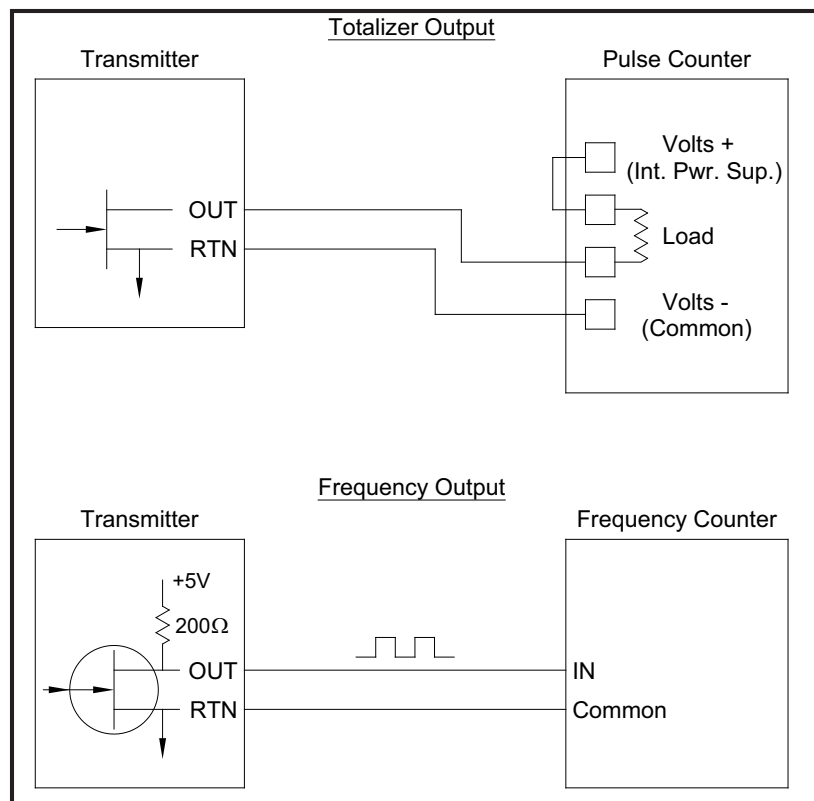
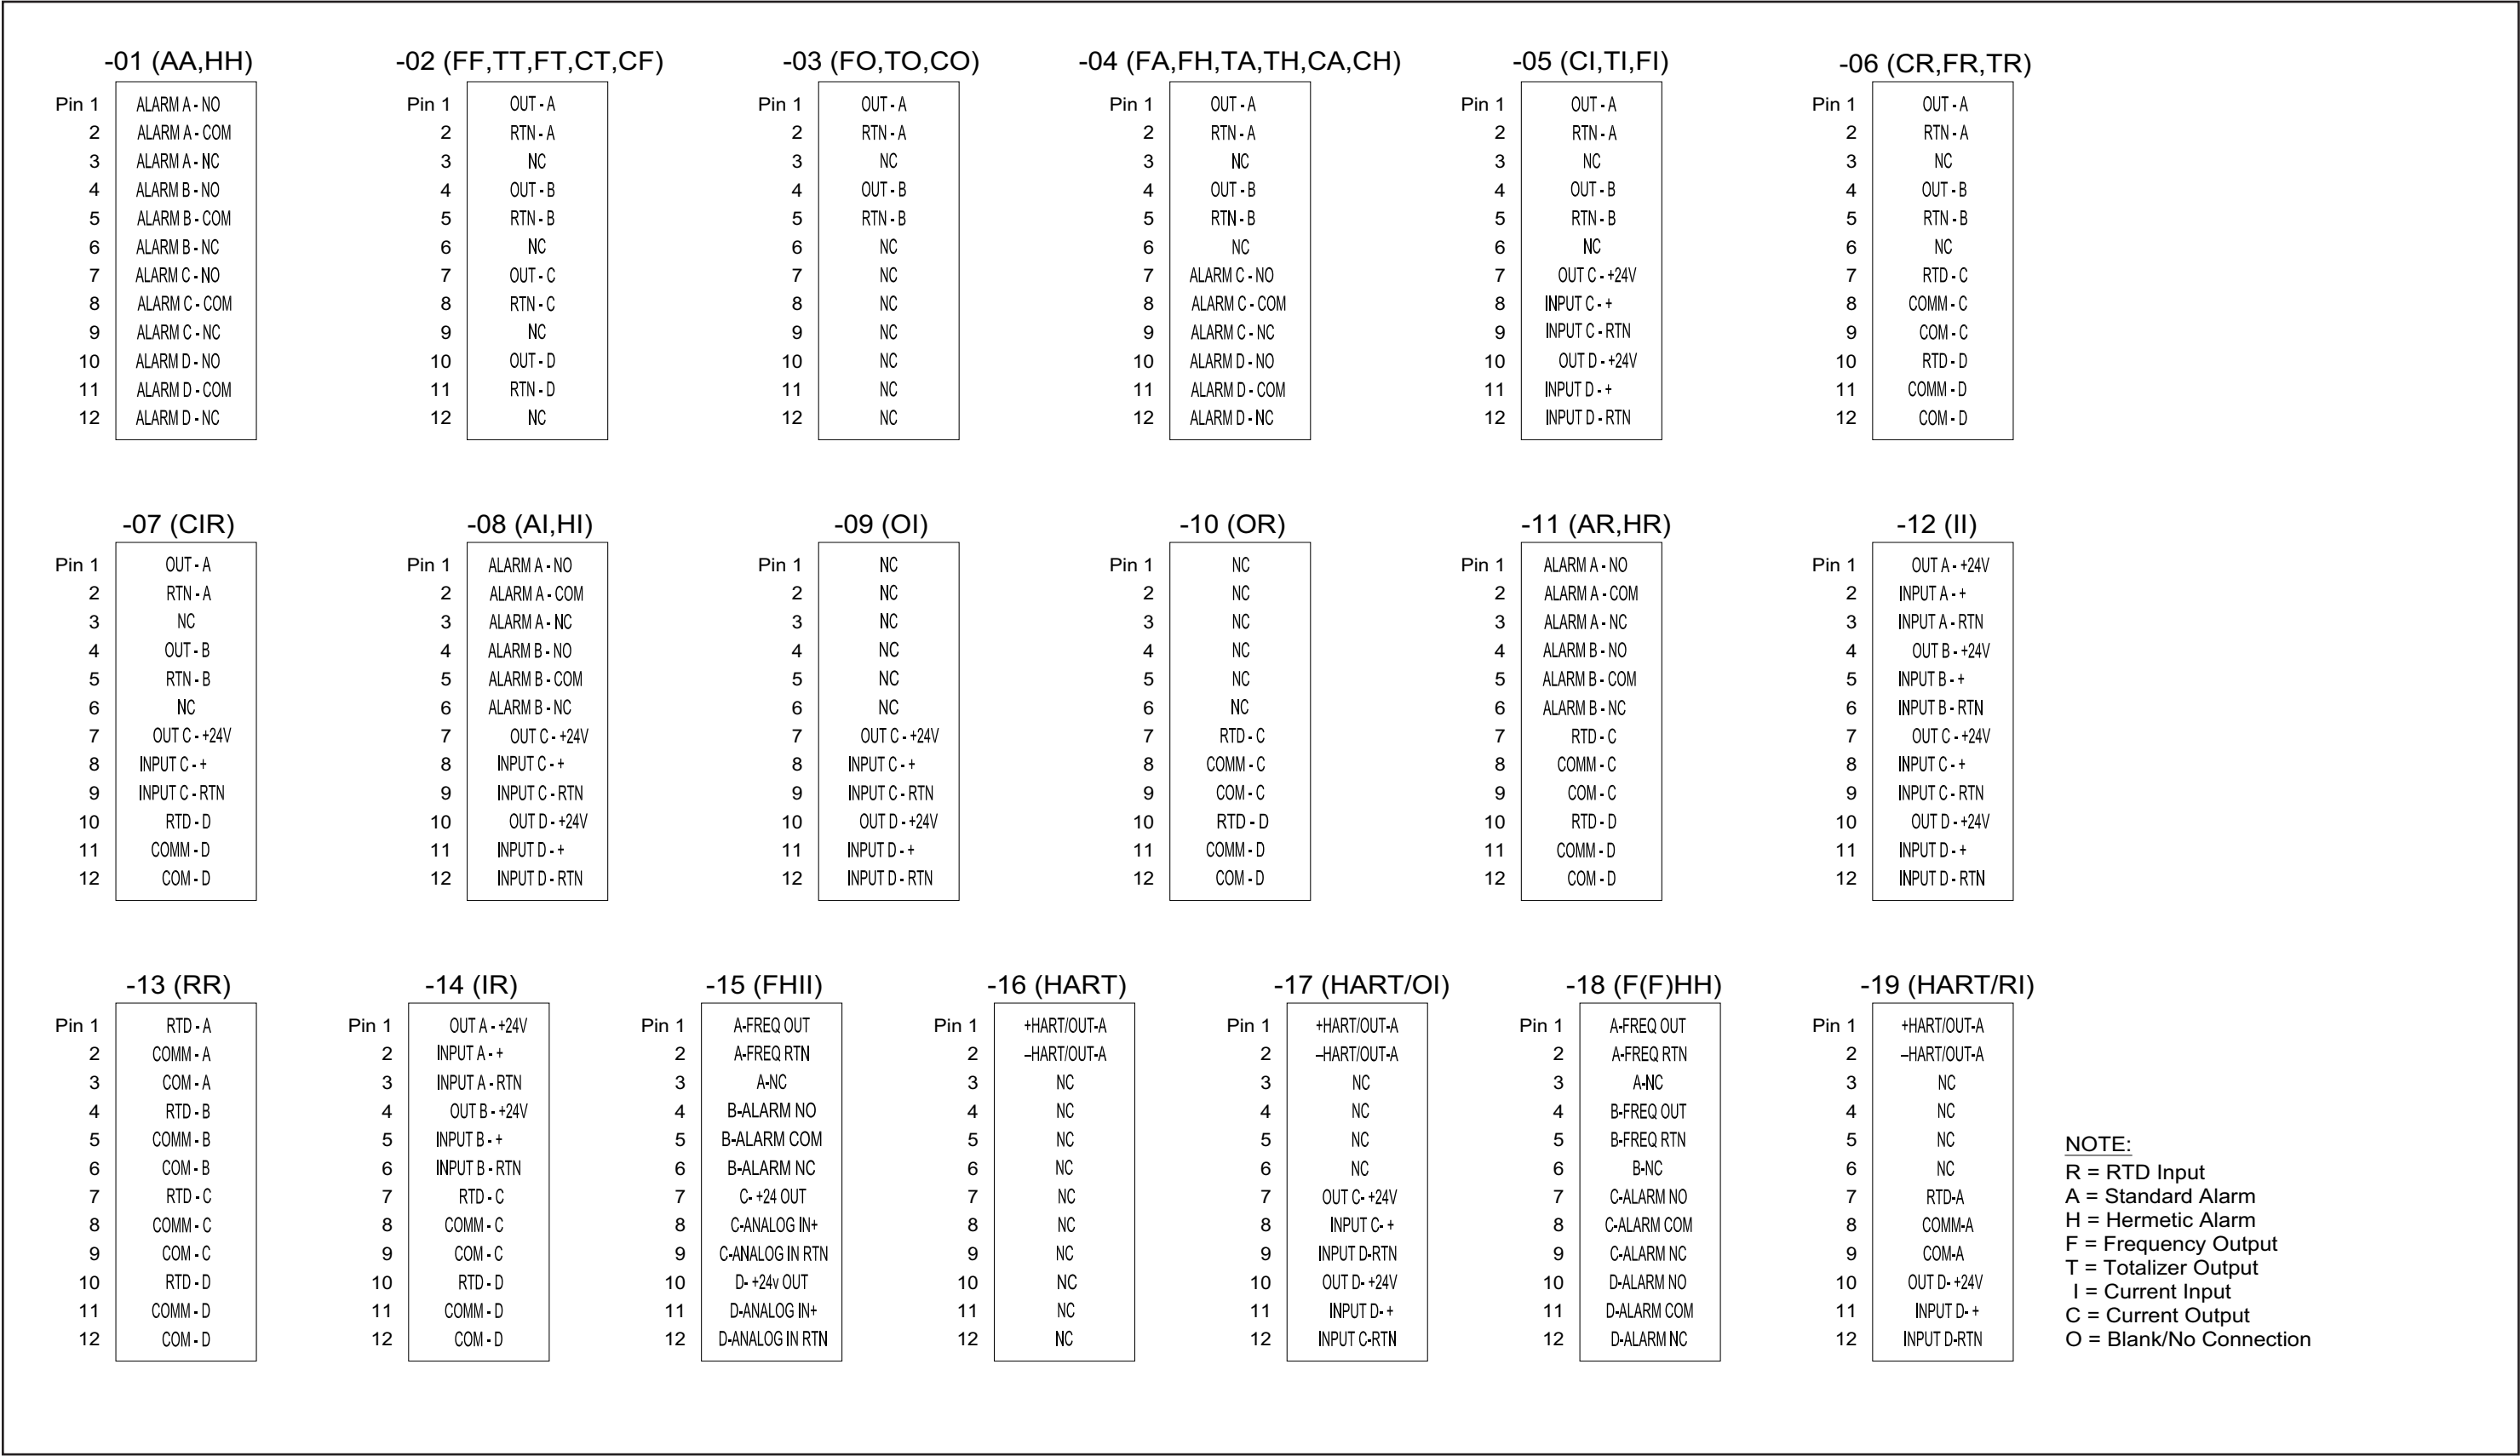

Figure 2: Totalizer and Frequency Wiring
Figure 4: Option Card I/O Connections
**IMPORTANT:** *Calibrating Input B, C or D is identical to calibrating Input A. However, be sure to reconnect the current source on terminal block J2. Refer to Figure 4 on page 12 for the correct pin numbers.*
**IMPORTANT:** *The procedure for calibrating all the inputs is the same. However, when calibrating a different input, be sure to reconnect the current source at terminal block J2. See Figure 4 on page 12 for the correct pin numbers.*
Prepare for the calibration procedure by connecting the RTD temperature transmitter to the desired input (A, B, C or D) on the option card. See Figure 4 on page 12 to identify the RTD(+) and COM(-) pins for the desired input on terminal block J2.
**IMPORTANT:** *When calibrating the other inputs, be sure to reconnect the current source at terminal block J2. See Figure 4 on page 12 for the correct pins.*
Prepare for the testing procedure by connecting an ohmmeter to the NO and COM pins of the desired alarm on the option card. Refer to Figure 4 on page 12 to identify the NO, NC and COM pins for the desired alarm on terminal block J2.
**IMPORTANT:** *The procedure for testing all the alarms is the same. However, when testing a different output, be sure to reconnect the ohmmeter at terminal block J2. See Figure 4 on page 12 for the correct pin numbers.*
Prepare for the testing procedure by connecting a pulse counter to the desired output of the option card. See Figure 2 for totalizer and frequency wiring output, and Figure 4 on page 12 to identify the OUT(+) and RTN(-) pins for Output A on terminal block J2.
**IMPORTANT:** *The procedure for testing all the outputs is the same. However, when testing another output, be sure to reconnect the pulse counter at terminal block J2. See Figure 4 on page 12 for the correct pins.*
Prepare for the testing procedure by connecting a frequency counter to the desired output on the option card. See Figure 4 on page 12 to identify the OUT(+) and RTN(-) pins for the desired output on terminal block J2.
**IMPORTANT:** *The procedure for testing all the outputs is the same. However, when testing another output, be sure to reconnect the frequency counter at terminal block J2. See Figure 4 on page 12 for the correct pins.*